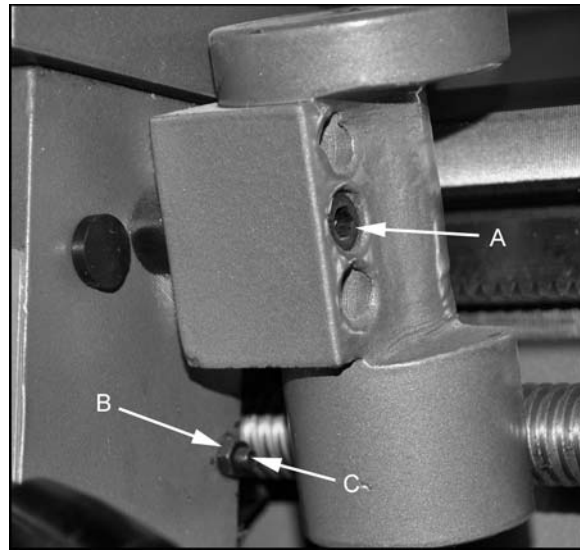

Figure 28
1. Remove the thread dial assembly by unscrewing the screw (A, Fig. 28).
2. Loosen three hex nuts (B, Fig. 28) found on the side of apron, and turn three set screws (C, Fig.28) equally with a hex wrench.